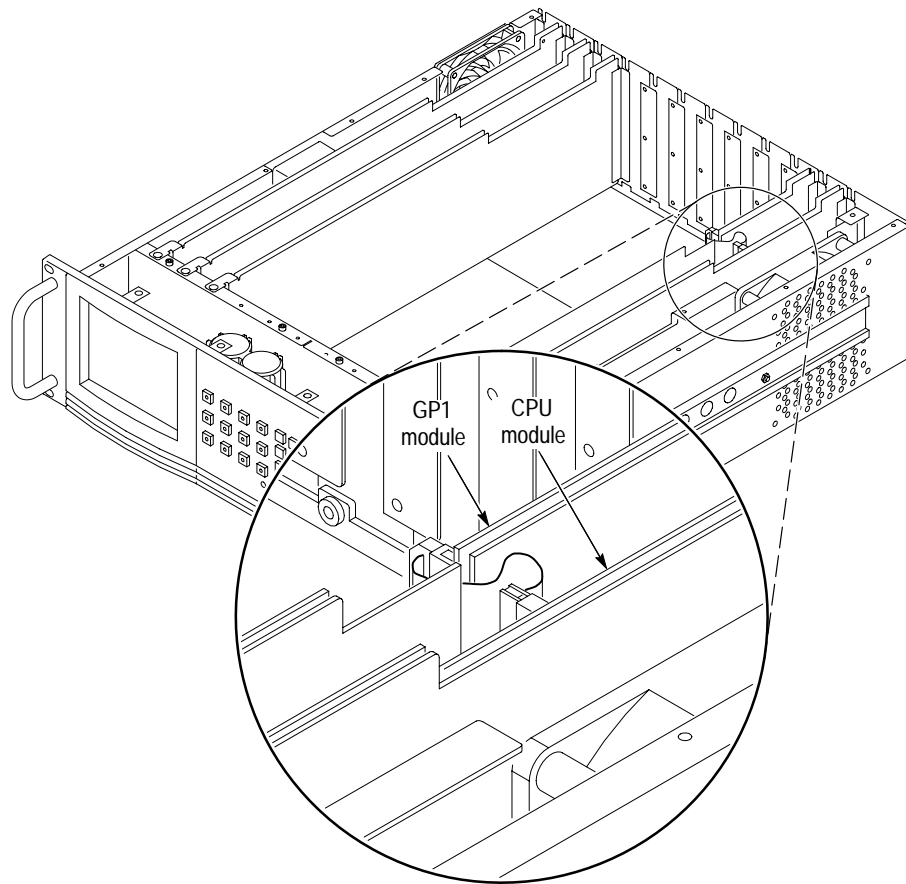

Figure C-6: Attaching the cable from the GP1 Interface module to the CPU board
8. Connect the ribbon cable from the GP1 Interface module to connector J20 on the CPU module, as shown in Figure C-6. You can swing the GP1 Interface module away from the CPU module to make more room to insert the cable.